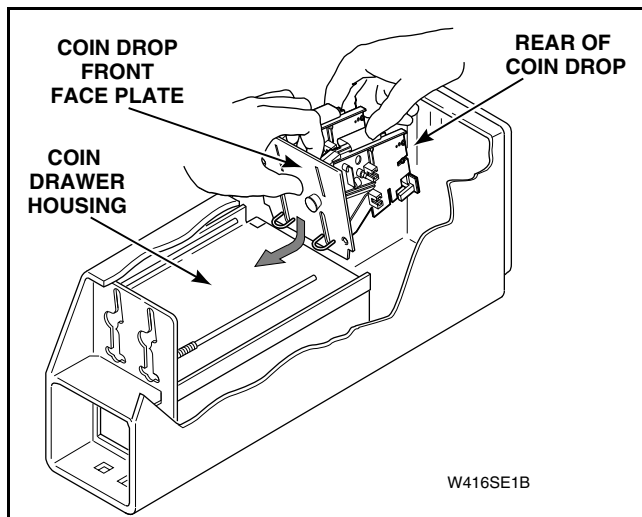

Figure 19
- p. Lift up front face plate of coin drop with one hand, while gently pushing down rear of drop with other hand, so the bottom of the drop's front face plate clears coin drawer housing. Refer to *Figure 19*.